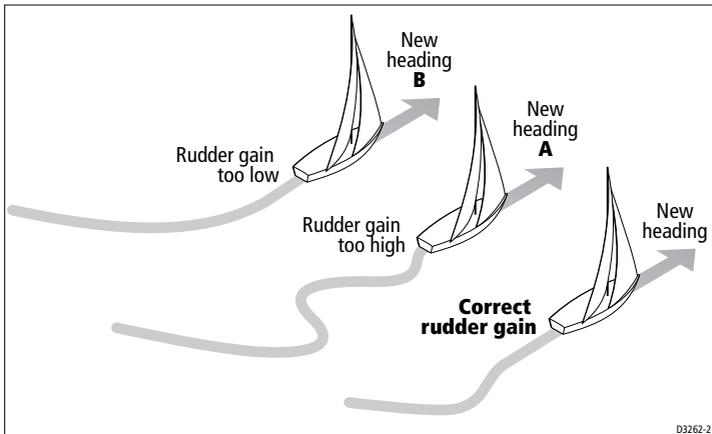

Figure 4-10:Rudder gain settings
- If the rudder gain setting is **too high**, the 40° course change will result in a distinct overshoot of more than 5° and there may be a distinct ‘S’ in the course (see **A** in *Figure 4-10*). Correct this oversteer by **reducing** the rudder gain setting.
- If the rudder gain is **too low**, the boat’s performance will be sluggish. It will take a long time to make the 40° turn and there will be no overshoot (see **B** in *Figure 4-10*). Correct this understeer by **increasing** the rudder gain setting.